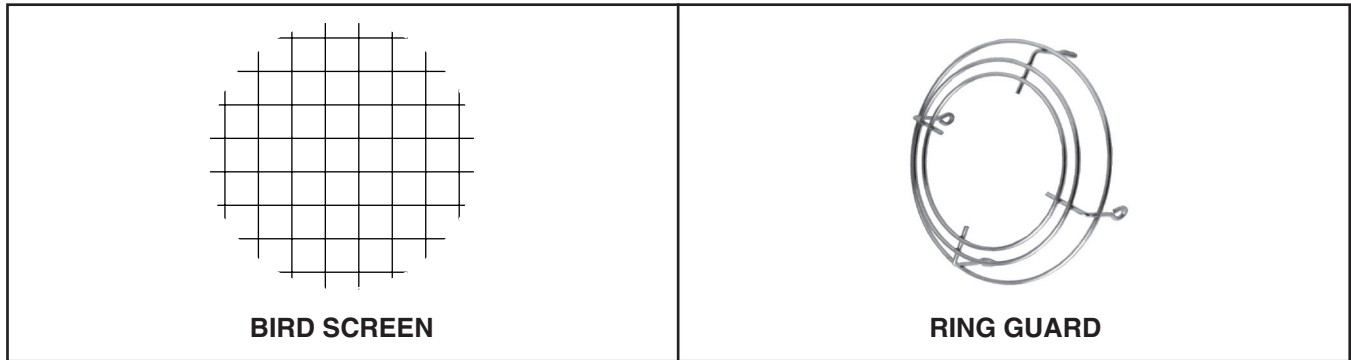

Figure 17. Option CC6 Components
- Factory-supplied components for installation of the horizontal vent kit are listed in Table 16 and shown in Figure 17.